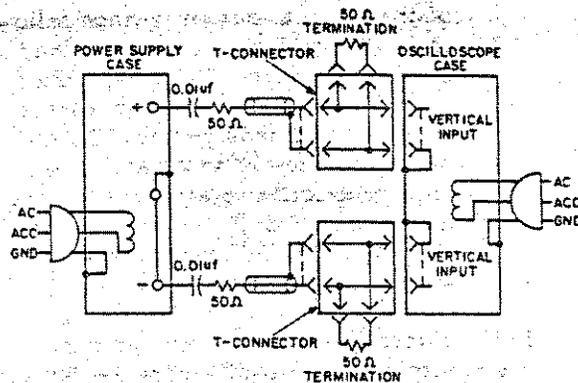

Figure 5-5. CV Noise Spike, Test Setup
- As shown in Figure 5-5, two coax cables, must be substituted for the shielded two-wire cable.
5-28 The circuit of Figure 5-5 can also be used for the normal measurement of low frequency ripple and noise; simply remove the four terminating resistors and the blocking capacitors and substitute
a higher gain vertical plug-in in place of the wide-band plug-in required for spike measurements. Notice that with these changes, Figure 5-5 becomes a two-cable version of Figure 5-4C.
5-31 The maximum load ratings listed in Figure 5-5 must be observed in order to preserve the mercury-wetted relay contacts. Switching of larger load currents can be accomplished with mercury pool relays; with this technique fast rise times can still be obtained, but the large inertia of mercury pool relays limits the maximum repetition rate of load switching and makes the clear display of the transient recovery characteristic on an oscilloscope more difficult.